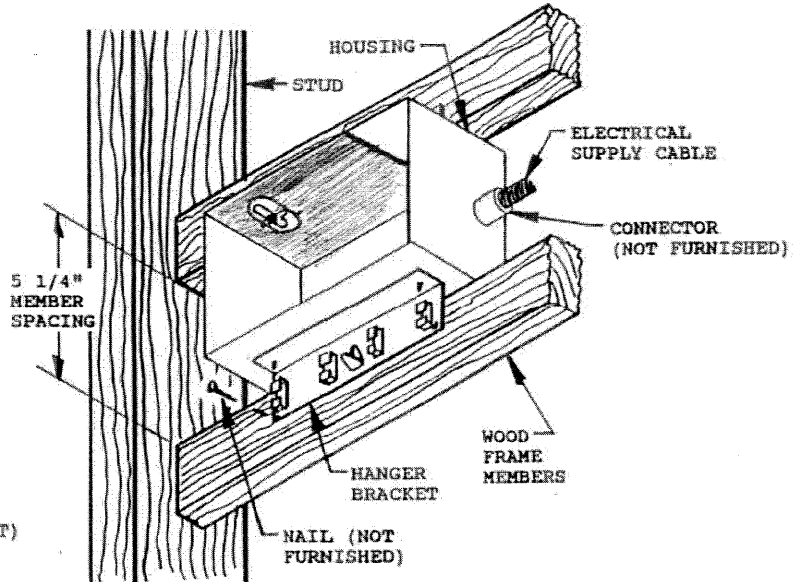

FIGURE 2
- 2.- FRAME-IN STUDS at desired FIXTURE location, and NAIL HANGER BRACKETS to WOOD FRAMING MEMBERS. (SEE FIGURE 2)
- 4.- When FIXTURE is at end of run, remove one (1) KNOCKOUT from HOUSING end where SPLICE COMPARTMENT is to be located. Use a U.L. listed CONNECTOR (not furnished) appropriate to the type of ELECTRICAL SUPPLY CABLE at installation site. Install CABLE in HOUSING. (SEE FIGURE 2 & 3)